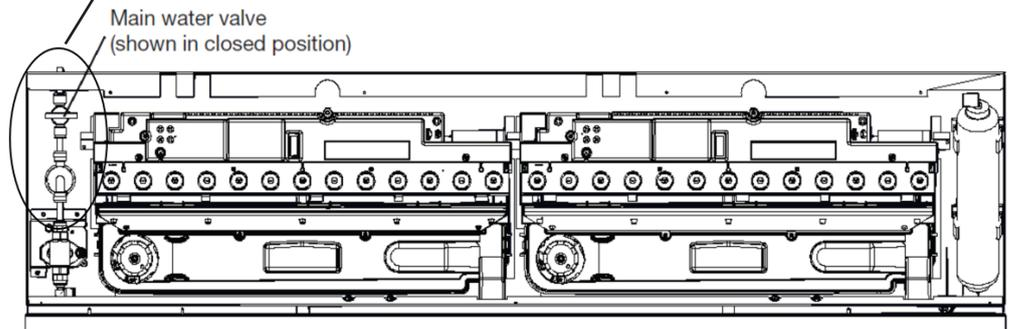

Fig. 4.1
Connect one end of the 2way(A) or 3way(B) 2m cable supplied with the pump accessory to the pump box. (Fig 4.1) Connect the other end of the cable to the terminal on your appliance, for CAS500/1000 and E-matrix products 2way wire(A) is to be connected, and for e-Slim Linear product 3way(B) wire is to be connected. (Fig 4.2)